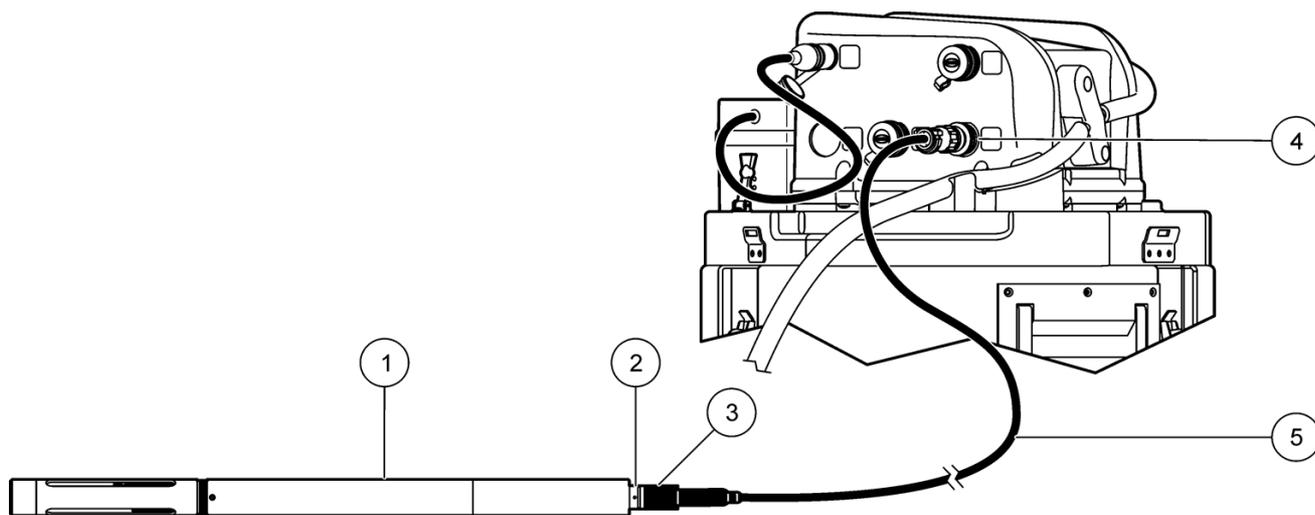

Figure 17 Sonde Connection
2. Connect the other end of the cable to the SDI-12 connector on the controller. See Figure 17 on page 35.